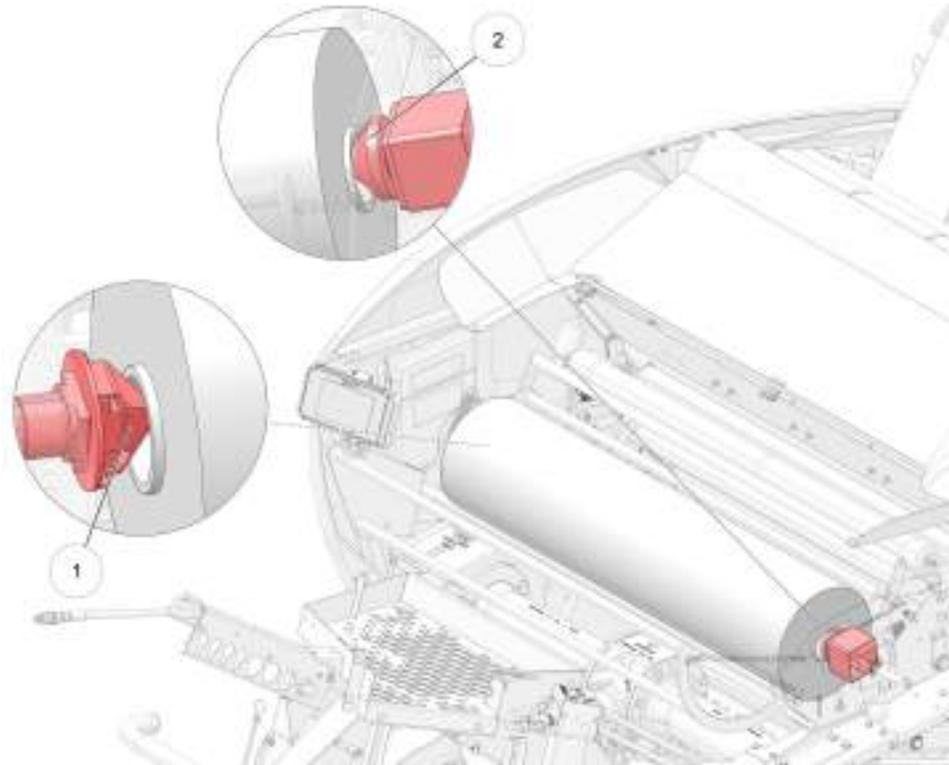

Figure 44. Check the position of the Spindles
6. Make sure the position of the spindles (1) and (2) (see Figure 44 on page 7-21) point in the center of the sleeve and not in the net. If necessary loosen the spindle with the crank handle and repeat step 4.